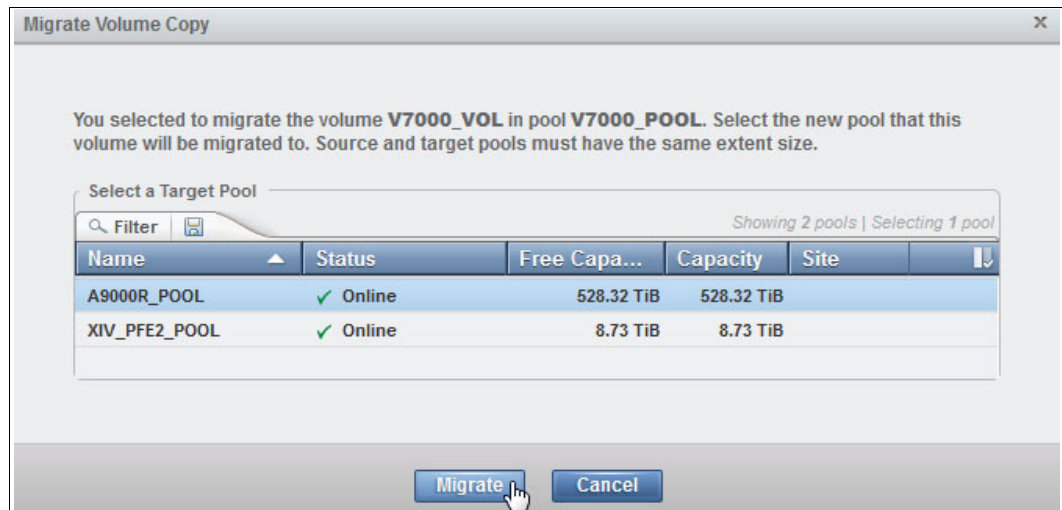

Figure 5-3 Migrating the VDisk to another pool
1. Click **Pools** → **Volumes by Pool**, right-click the volume, and select **Migrate to Another Pool**. Then, select pool A9000R_POOL, as illustrated in Figure 5-3.